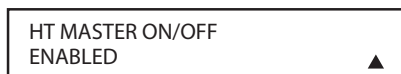

Figure 102.
2. The remote's **MAIN MENU** message will appear in the LCD and the **Set Button 18** will remain illuminated in red. Press the **▲/▼ Navigation Button 16** twice so that **HT MASTER ON/OFF** appears on the bottom line of the LCD screen, as shown in **Figure 102**. Press the **Set Button 18** to enter the HT Master Setup branch.